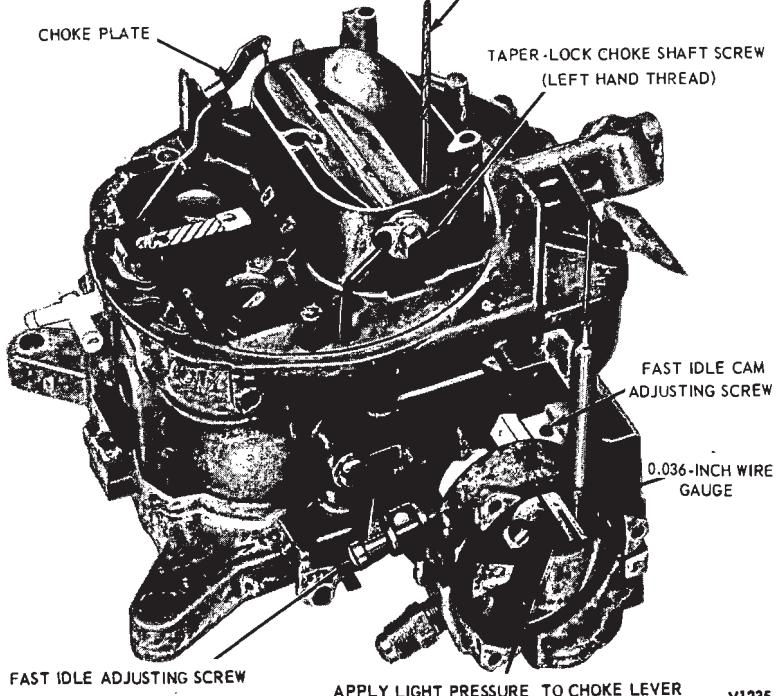

FIG. 5—Choke Plate Pull-Down and Fast Idle Cam Adjustment
contact the fast idle adjustment screw, then insert the bent end of the wire gauge between the lower edge of the piston slot and the upper edge of the right hand slot in the choke housing (Fig. 5).
5. To adjust the choke plate clearance, loosen the hex head screw (left hand thread) on the choke plate shaft (Fig. 5) and pry the link away from the tapered shaft.